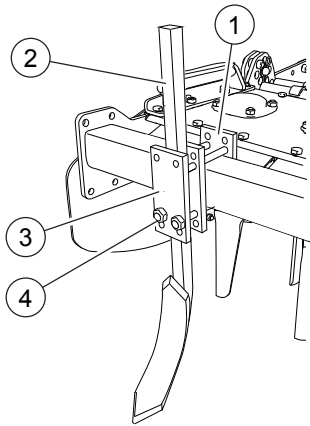

FIG. 13
Fit the track eradicator support (1, "Fig. 13") onto the front bar. Insert track eradicator (2) between the plates (3). Adjust height from the ground. Tighten nuts (4).